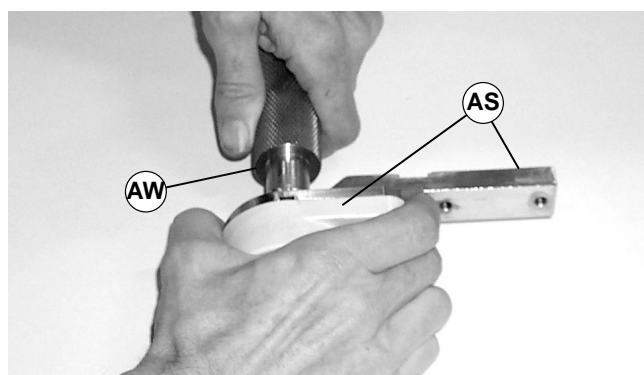

Figure 38
7. Remove bearing and head plate assembly (AS of Figure 38) from drive spindle (AW).
1. Make sure bearing surfaces on drive spindle are free of nicks and burrs. Slide bearing and head plate assembly (AS of Figure 38) on drive spindle (AW).